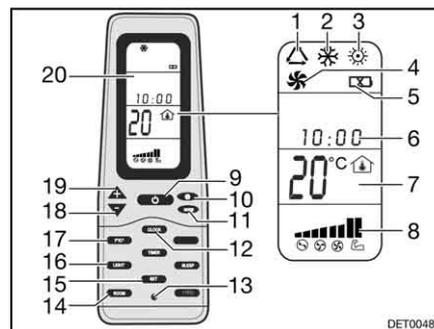

Fig. 180 Remote control
- Press the ON/OFF button (Fig. 180,9).
- Press the "Mode" button (Fig. 180,11) as often as required until the required mode (Fig. 180,1, 2, 3 or 4) is indicated on the display (Fig. 180,20).
- Use the "+" (Fig. 180,19) and "-" (Fig. 180,18) buttons to set the desired temperature.
- Use the fan speed button (Fig. 180,10) to select the desired fan level.